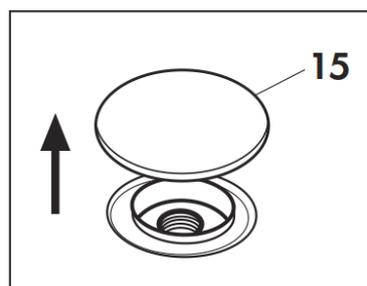

Fig. 4
Filling with tap water or non-foaming water cleaning agents into the respective tank by lifting of the cover (15). **(Fig. 4)**